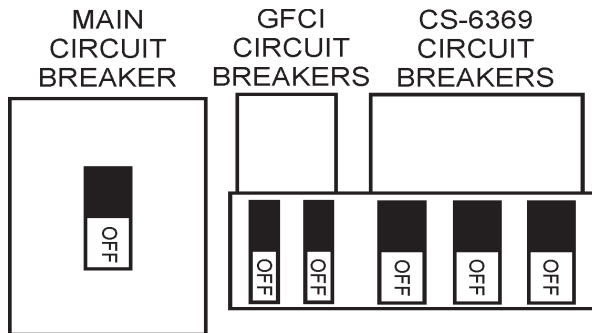

Figure 28. Main, Aux. and GFCI Circuit Breakers (OFF)
1. Place the *main*, *G.F.C.I.*, and *aux.* circuit breakers (Figure 28) in the **OFF** position prior to starting the engine.